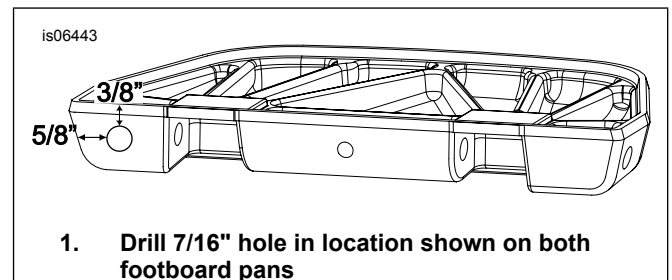
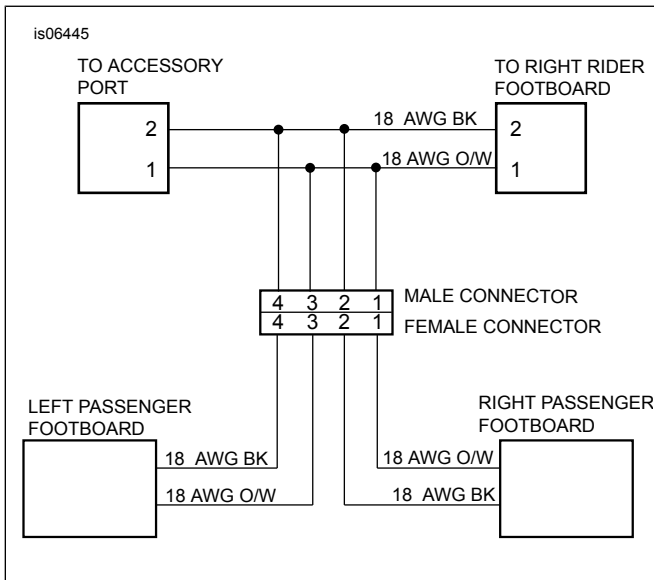
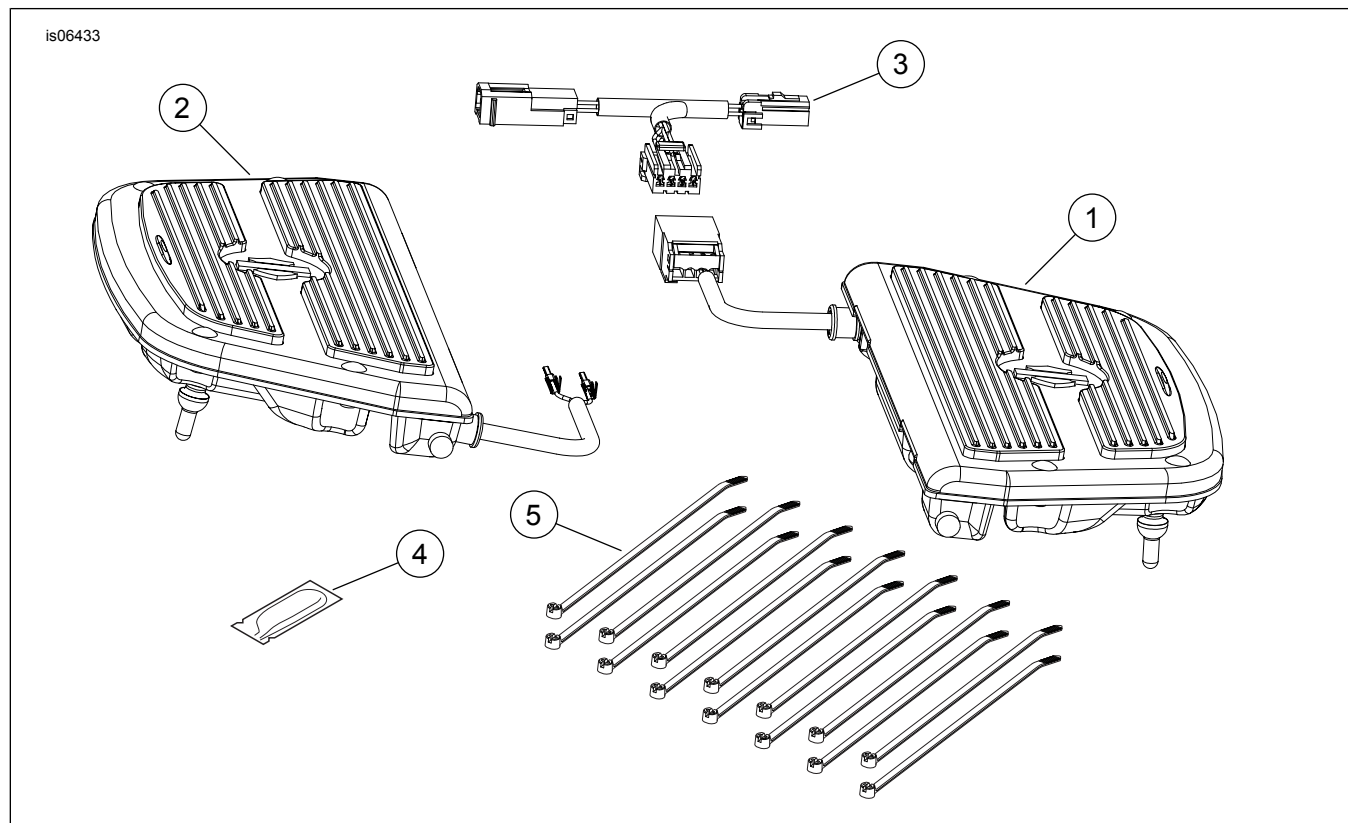

Figure 1. Drill Holes for Wire Harness in Footboard Pans
Figure 2. Passenger Footboard Leads Connected to "Y" Harness
Figure 3. Service Parts: Electra Glo Lighted Passenger Footboard Insert
See Figure 3 and Table 1.
1. See Figure 1. Drill a 7/16 inch hole into the sidewall of both footboard pans as shown in Figure 2. Remove sharp edges and burrs. When installed, the right footboard pan will have the hole in the front and the left footboard pan will have the hole at the rear of the pan.
1. See Figure 2, Figure 3 and Table 1 to make the wire connections. Apply the contents of the dielectric grease packet (4) to the footboard insert wiring harness and all harness connector terminals.